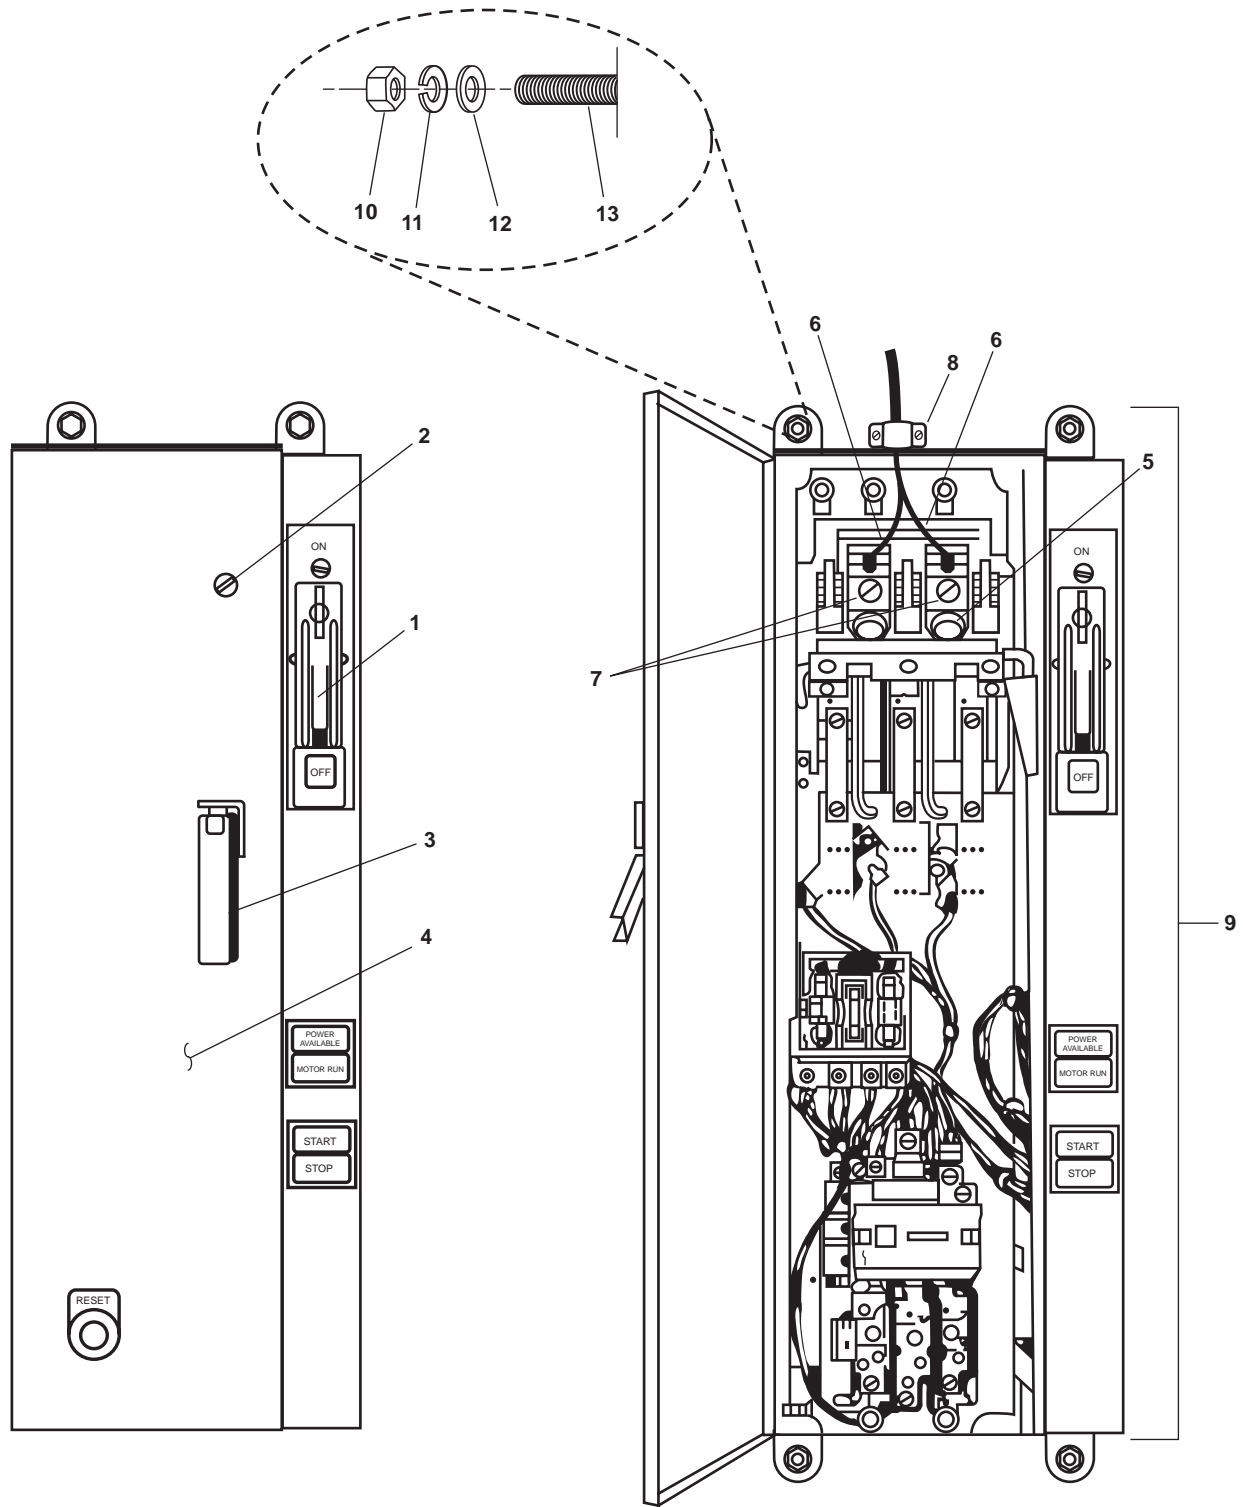

Figure 1. Motor Controller Type 1 (Typical)
1. Set to OFF the switch handle (figure 1, item 1).
2. Loosen the motor controller door screw (figure 1, item 2).
3. Turn the handle (figure 1, item 3) to open the door (figure 1, item 4).
4. Use a multimeter to check for available voltage at the motor controller terminals (figure 1, item 5). If voltage is present, ensure that the appropriate circuit breakers have been secured, locked out, and tagged out. If no voltage is present, continue with this procedure.
5. Label and remove the wiring (figure 1, item 6) by loosening the screws (figure 1, item 7) located on the terminals (figure 1, item 5). Loosen the strain relief clamps (figure 1, item 8) and pull the wiring (figure 1, item 6) from the motor controller (figure 1, item 9).
6. Remove the four nuts (figure 1, item 10), lockwashers (figure 1, item 11), and the four flat washers (figure 1, item 12) from the studs (figure 1, item 13). Discard the lockwashers (figure 1, item 11).
7. Remove the motor controller (figure 1, item 9) from the studs (figure 1, item 13).
1. Install the motor controller (figure 1, item 9) on the studs (figure 1, item 13).
2. Install the four nuts (figure 1, item 10), four new lockwashers (figure 1, item 11), and the four flat washers (figure 1, item 12) on the studs (figure 1, item 13).
3. Route the wiring (figure 1, item 6) into the motor controller (figure 1, item 9) and secure it in place with the strain relief clamps (figure 1, item 8).
4. Connect the wiring (figure 1, item 6) to the motor controller (figure 1, item 9) by tightening the screws located on the terminals (figure 1, item 5) using the labels from step 5 of Removal as a guide. Remove the labels.
5. Close and secure the door (figure 1, item 4) by turning the handle (figure 1, item 3).
6. Tighten the door by turning the motor controller door screw (figure 1, item 2).